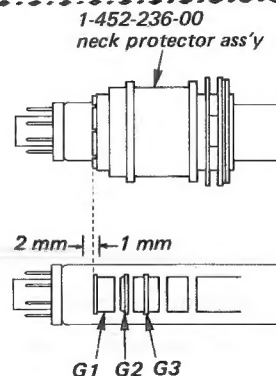

Fig. 1-2
4. Position neck assembly as shown in Fig. 1-2.